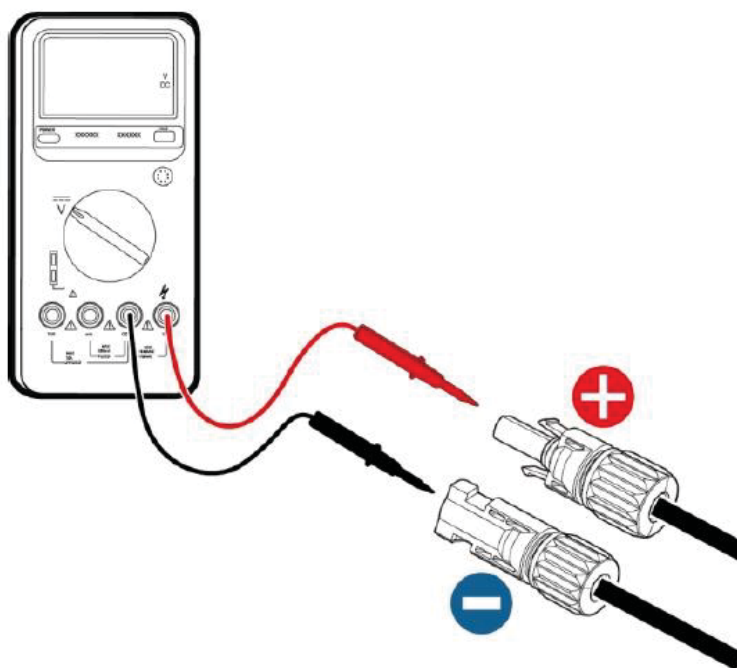

Figure 4.16 DC input voltage measuring
(2) Open the wiring bin of the inverter, make the anode and cathode of the PV string whose terminals have been well crimped go through the water-proof PG head, and fix the terminals to corresponding position, and ensure the conductor of the lead is unexposed and crimped firmly;
(3) Before connecting DC connector to inverter, use a multimeter to measure the voltage of the DC input string, verify the polarity of the DC input cable, and ensure that the voltage of each string is within the allowable range of the inverter, as shown in Figure 4.16.
- (3) After the DC connector is connected, use a multimeter to measure the voltage of the DC input string, verify the polarity of the DC input cable, and ensure that the voltage of each string is within the allowable range of the inverter, as shown in Figure 4.16.